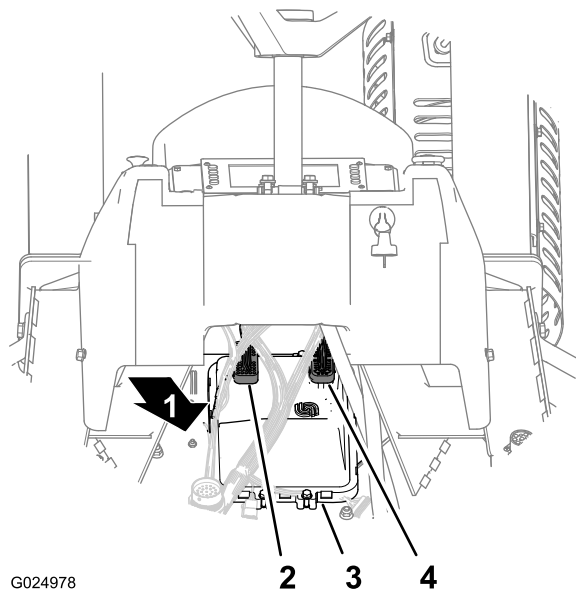

Figure 124
2. Disconnect the 50-socket connector (CPU 1) from the back of the computer module (Figure 124).
3. Disconnect the 38-socket connector (CPU-2) from the back of the computer module (Figure 124).
1. Connect the 38-socket connector (CPU-2) to the back of the computer module (Figure 124).
2. Connect the 50-socket connector (CPU 1) to the back of the computer module (Figure 124).